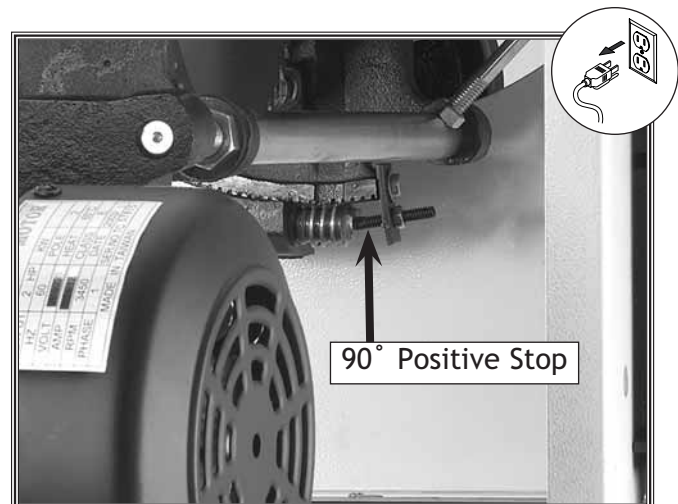

Figure 53. 90° positive stop bolt.
1. Reach through the back of the saw and locate the 90° positive stop bolt shown in Figure 53.